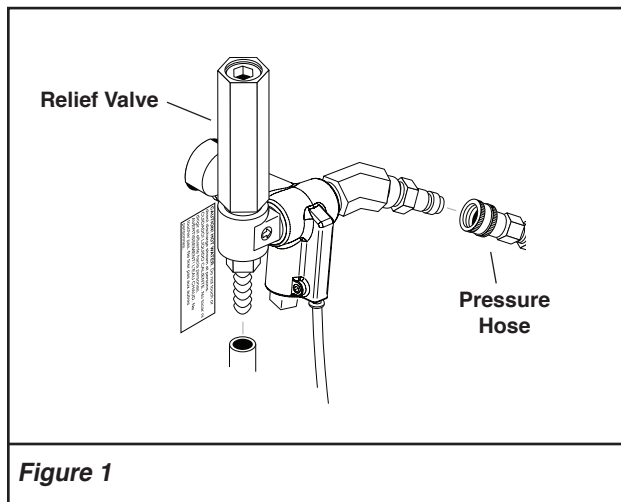

Figure 1
2. Install high pressure hose on machine as shown in **Figure 1**.